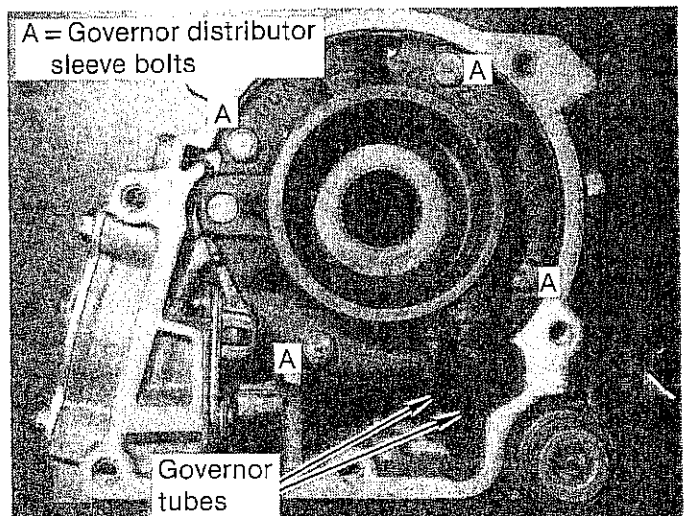
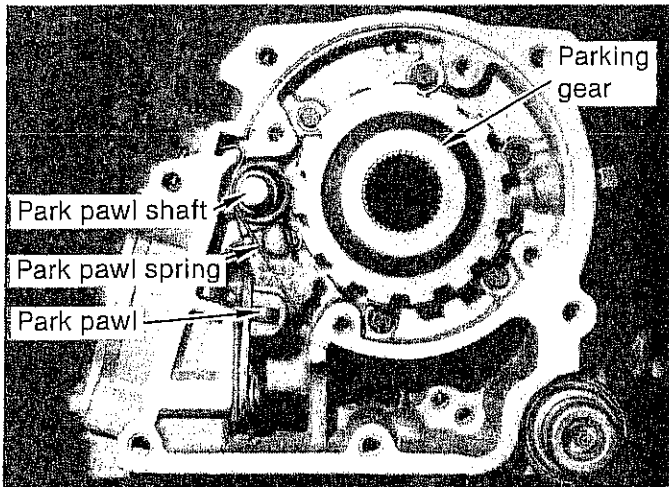

FIGURE 22
FIGURE 23
STEP 14. Remove the four governor distributor sleeve bolts. (See Fig. 22) Remove sleeve and governor tubes. Remove parking gear. (See Fig. 23) Remove parking gear thrust washer. Remove park pawl spring, pawl and shaft. Put the small parts in the oil pan.